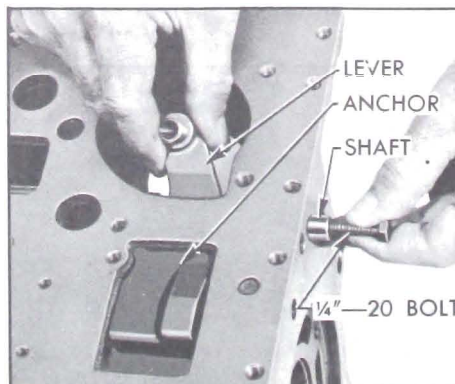

Figure 5-42—Removing Reverse Band Operating Lever and Shaft
5. Thread a 1/4"-20 bolt into the reverse band anchor shaft to pull it from transmission case; then remove the operating lever. Rotate the reverse band until the anchor can be disengaged, then remove this part. See Figure 5-42.